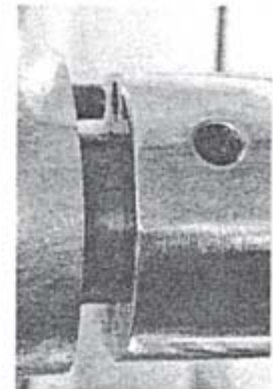

Fig. 11
3. Insert the attachment shaft into the hub making sure to line up the alignment pin with the hub hole as shown in fig. 11.